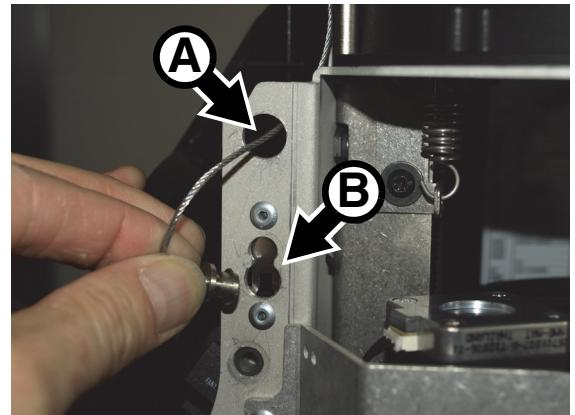

Figure 5
8. See Figure 5. Pass the Quadray Module's safety cable through the hole **A** in the head chassis and then into the safety wire attachment point **B**. Push and slide the fastener so that it is locked into the attachment point.